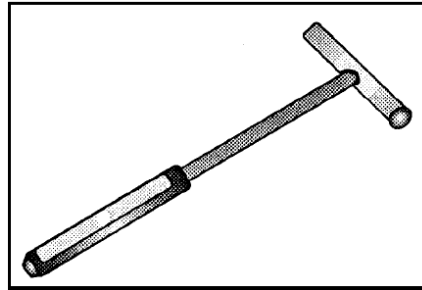
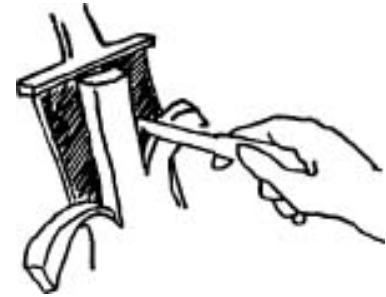

Figure 2. Tube-type soil sample probe
Figure 3. Trimming a shovel sample for a consistent volume of soil
- ***Make sure that a uniform volume of soil is taken from each sample location.*** To form a physical average, each contributing sub-sample should be of the same volume. If it is not, improper influence of individual sub-samples on the eventual composite sample will result. This is most easily done using a tube-type sample probe (see Figure 2) or by trimming samples taken with a shovel or spade (see Figure 3).